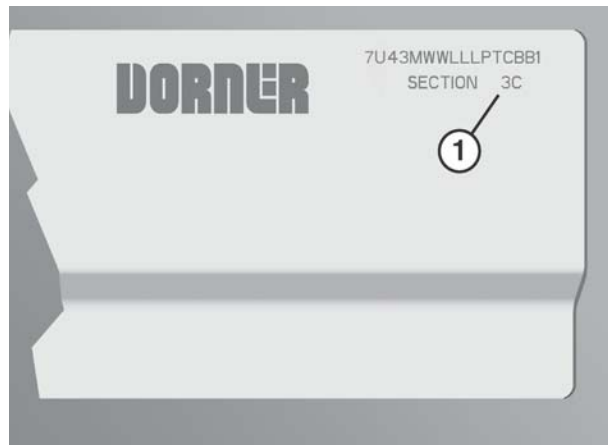

Figure 34
1. Locate the section number sequence etched on each section of frame (**Figure 34, item 1**).